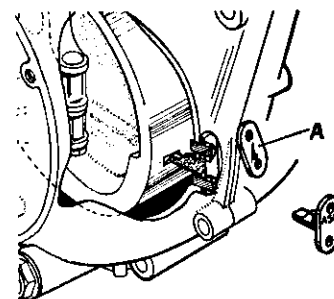

FIG. 8. Using the timing plug.
Following replacement of the crankcase filter, it will ensure immediate lubrication of internal parts if a small quantity of engine oil (say, half a pint) is added to the crankcase before starting the engine. This oil can be inserted through the timing plug aperture in the front of the crankcase (Fig. 8) or added to the rocker box, in which case ample time must be allowed for the oil to drain down into the crankcase. It will also be necessary to allow sufficient space in the oil tank to receive the additional quantity of oil.
In order to assist the owner in setting the piston in the correct timing position, the flywheel is specially machined to accept a timing plug (supplied in the toolkit) which can be inserted through an aperture in the front of the crankcase (Fig. 8). First, set the right-hand piston at the top of its compression stroke (both valves closed). Remove the detachable cover (A), and insert the plug loosely. Rotate the engine backwards **very slowly** until the timing plug is felt to engage in the flywheel timing keyway, then add and tighten the fixing nuts.